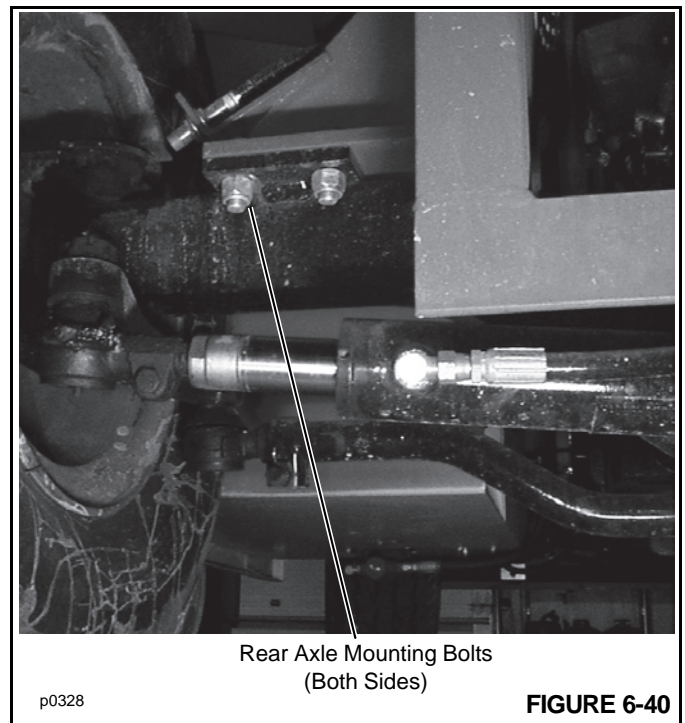

FIGURE 6-40
Torque the 5/8" axle mounting bolts (8) to 245 Nm (180 lb-ft). Refer to Figure 6-40.